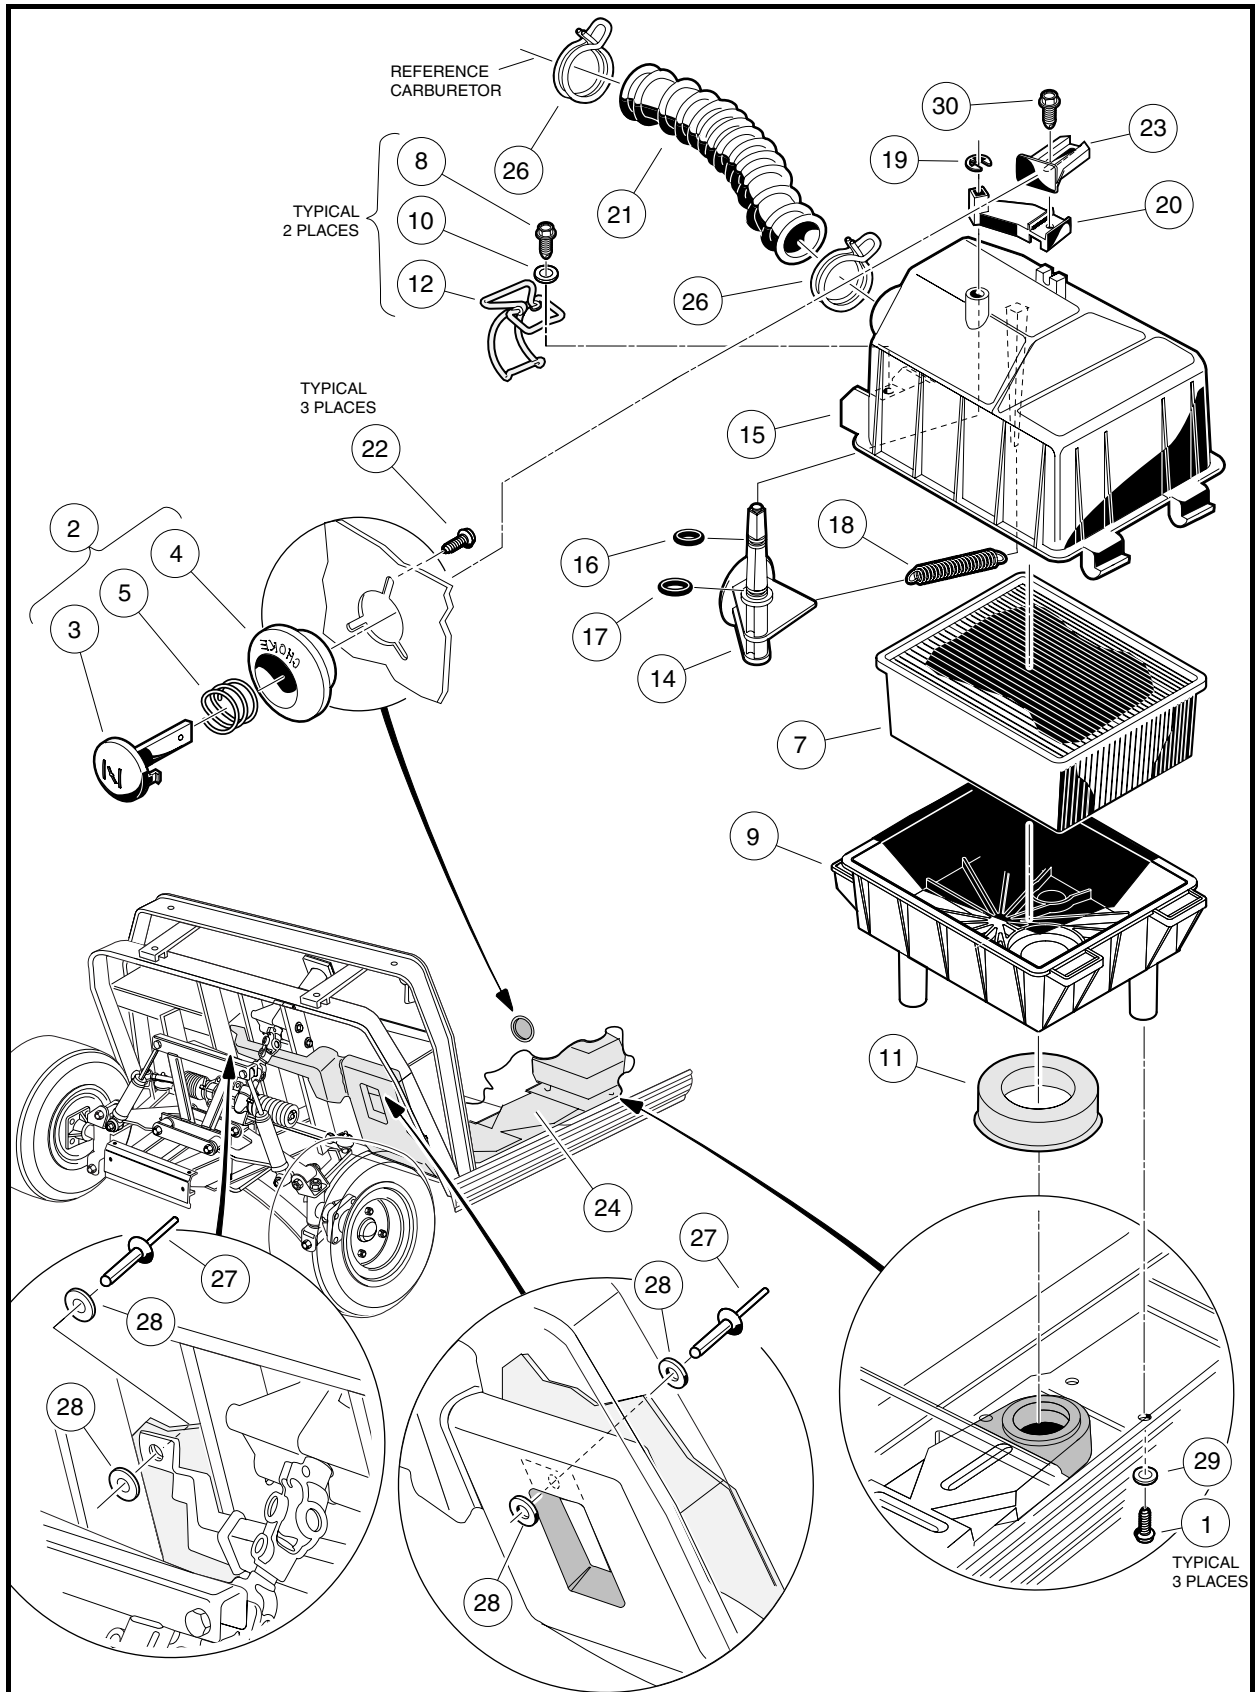

Figure 16-12 Air Intake and Choke Assemblies
1. Remove the mounting screws (22) from the back side of the choke. Remove the choke assembly from the vehicle body (**Figure 16-12, Page 16-15**).
1. Position the choke assembly (2) on the vehicle body. Install the mounting screws (22) from inside the vehicle body and tighten to 18 in-lb (2.0 N·m) (**Figure 16-12, Page 16-15**).
2. Check for proper operation. If the choke button does not adequately engage the choke lever (20), loosen the screw (30) and adjust the choke bracket (23) on the choke lever (20). Move the bracket toward the choke button to increase choke engagement and away from the choke button to reduce choke engagement.
3. Remove the air intake box from the vehicle by removing intake hose (21) and three screws (1) and washers (29) that mount the intake box to the vehicle (**Figure 16-12, Page 16-15**).
1. Check to be sure the intake seal (11) is seated correctly (**Figure 16-12, Page 16-15**). The seal fits tightly onto the bottom side of the air box. If seal is not in place, moisture will enter the air intake system.
2. Place the air box assembly into vehicle and install three flat washers (29) and screws (1) from underside of air box mounting plate into air box (**Figure 16-12, Page 16-15**). Tighten to 33 in-lb (3.7 N-m).
4. Drill out the two pop rivets (27) securing the intake duct to the floorboard (**Figure 16-12, Page 16-15**).
5. Remove three screws (1) and flat washers (29) from the bottom of the air box assembly.
2. Secure the front of the duct to the underside of the floorboard with two pop rivets (27) and flat washers (28) (**Figure 16-12, Page 16-15**).
1. Lift two latches (12) on the side of the air box (**Figure 16-12, Page 16-15**).
2. Remove the hose clamp (26) from the air hose (21) and remove hose from the air box assembly.
3. Standing on driver side of vehicle, grasp air hose mounting inlet and open box fully. Remove filter element (7).
6. Fasten wire latches (12). Make sure latches securely engage the bottom half of the box. **See following CAUTION.**
7. Install hose (21) and hose clamp (26) (**Figure 16-12, Page 16-15**). If equipped with screw clamp, tighten to 17 in-lb (1.9 N·m). Make sure clamp ends are located in the 12:00 o'clock position.